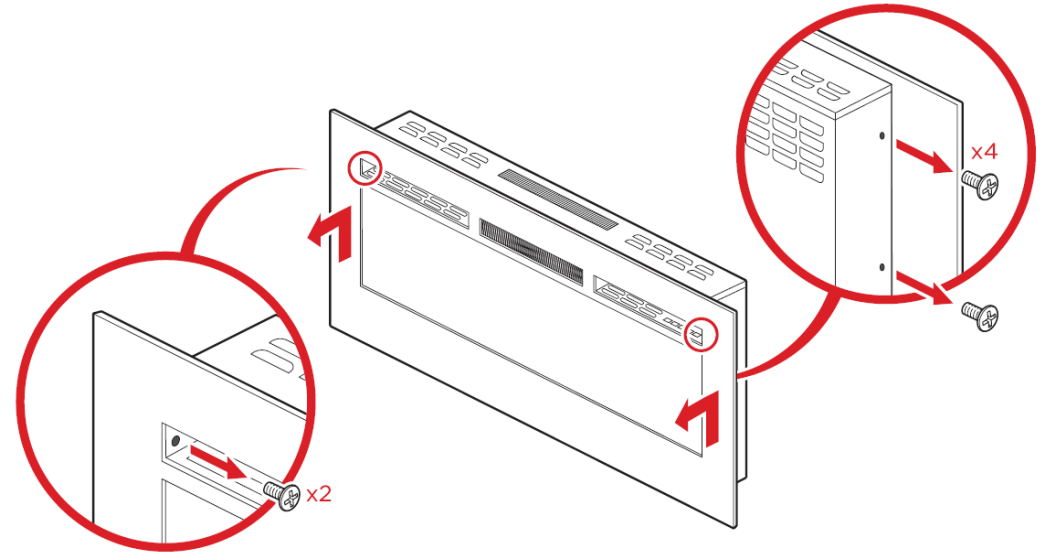

Fig.2
- For optimum viewing, mark the top four screws (fixing positions on the wall in accordance with the recommended fixing dimension; See Fig.2
- Remove four silver screws from the sides of the heater, two screws on each side. Remove two screws from the front of the heater. Remove the tempered glass by lifting it from the lugs on the sides. see Fig.2